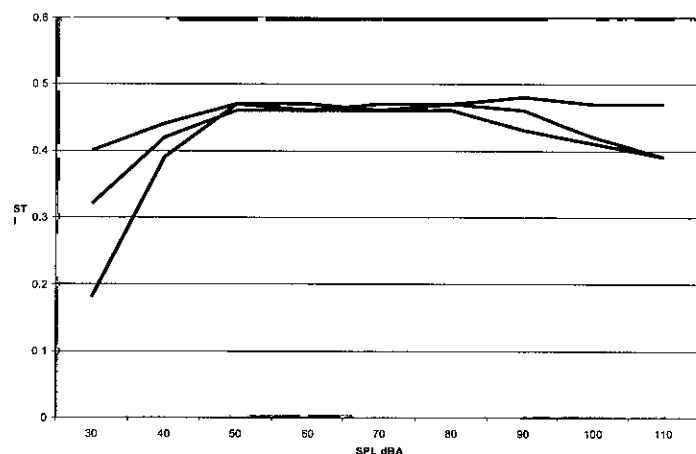

Fig 4 STIPa comparison test March 2005
Figure 4 shows that although the various meter readings now agree much more closely, an interesting discrepancy occurs, at both low and high sound pressure levels. However, over the range 50 to 80 dB(A) the variation among the meters for the particular test condition shown (reverberation-induced loss of intelligibility) is only 0.01 STI when each meter uses its individual, dedicated test signal. This is a very encouraging result.